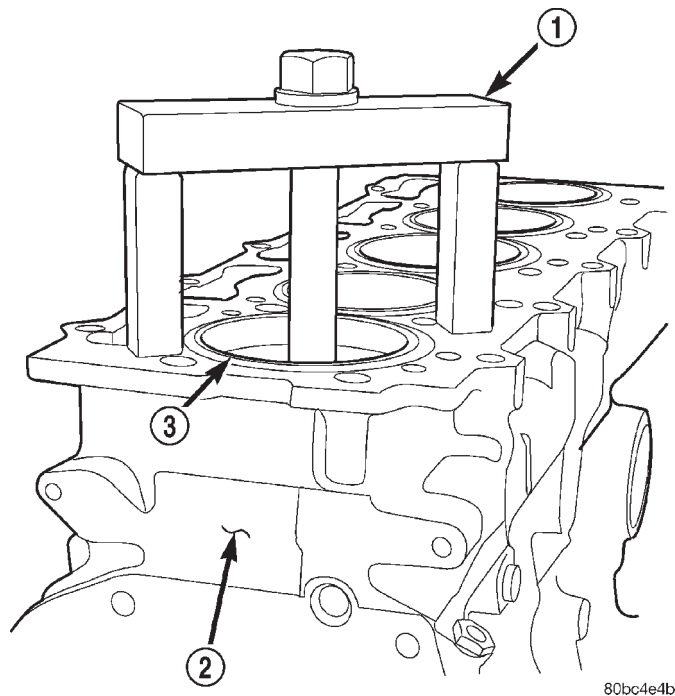

Fig. 102 VM.1001
- (1) Disconnect the negative battery cable
- (2) Remove the engine from vehicle.
- (3) With the engine completely disassembled, install the Cylinder Liner Puller Tool VM-1001 to remove liners (Fig. 101) (Fig. 102).